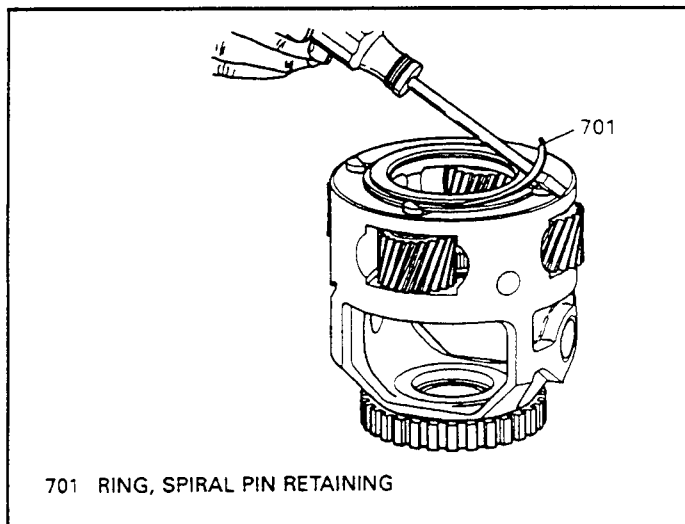

Figure 99
11. Remove the spiral snap ring that retains the planetary pinion pins as shown in Figure 99.
21. Install the final drive carrier spiral snap ring (701) into the groove to retain the planetary pinion gear pins, as shown in Figure 99.